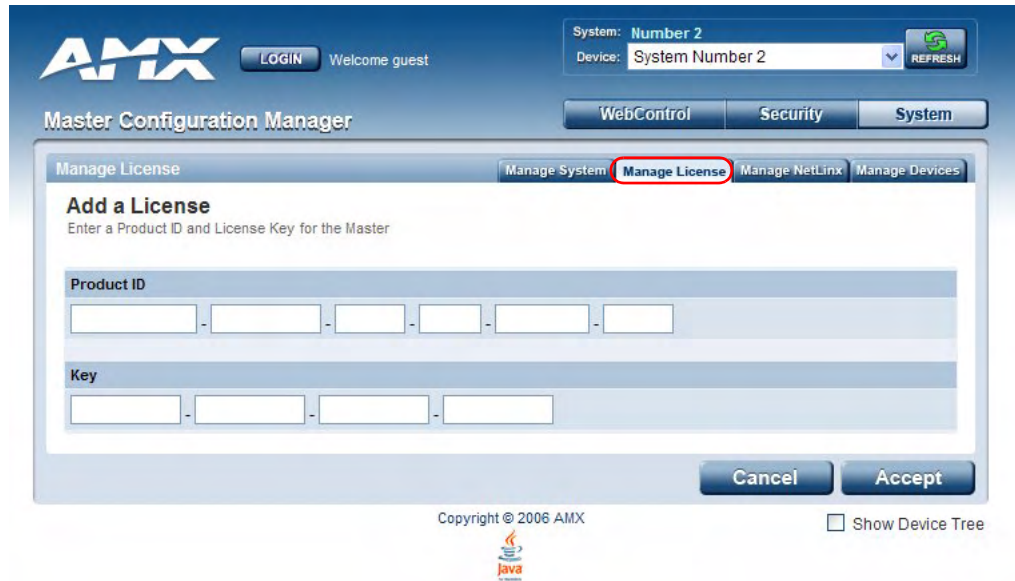

FIG. 44 Manage License - Add a License page
1. Click the **Add New License** button to access the *Add a License* page (FIG. 44).